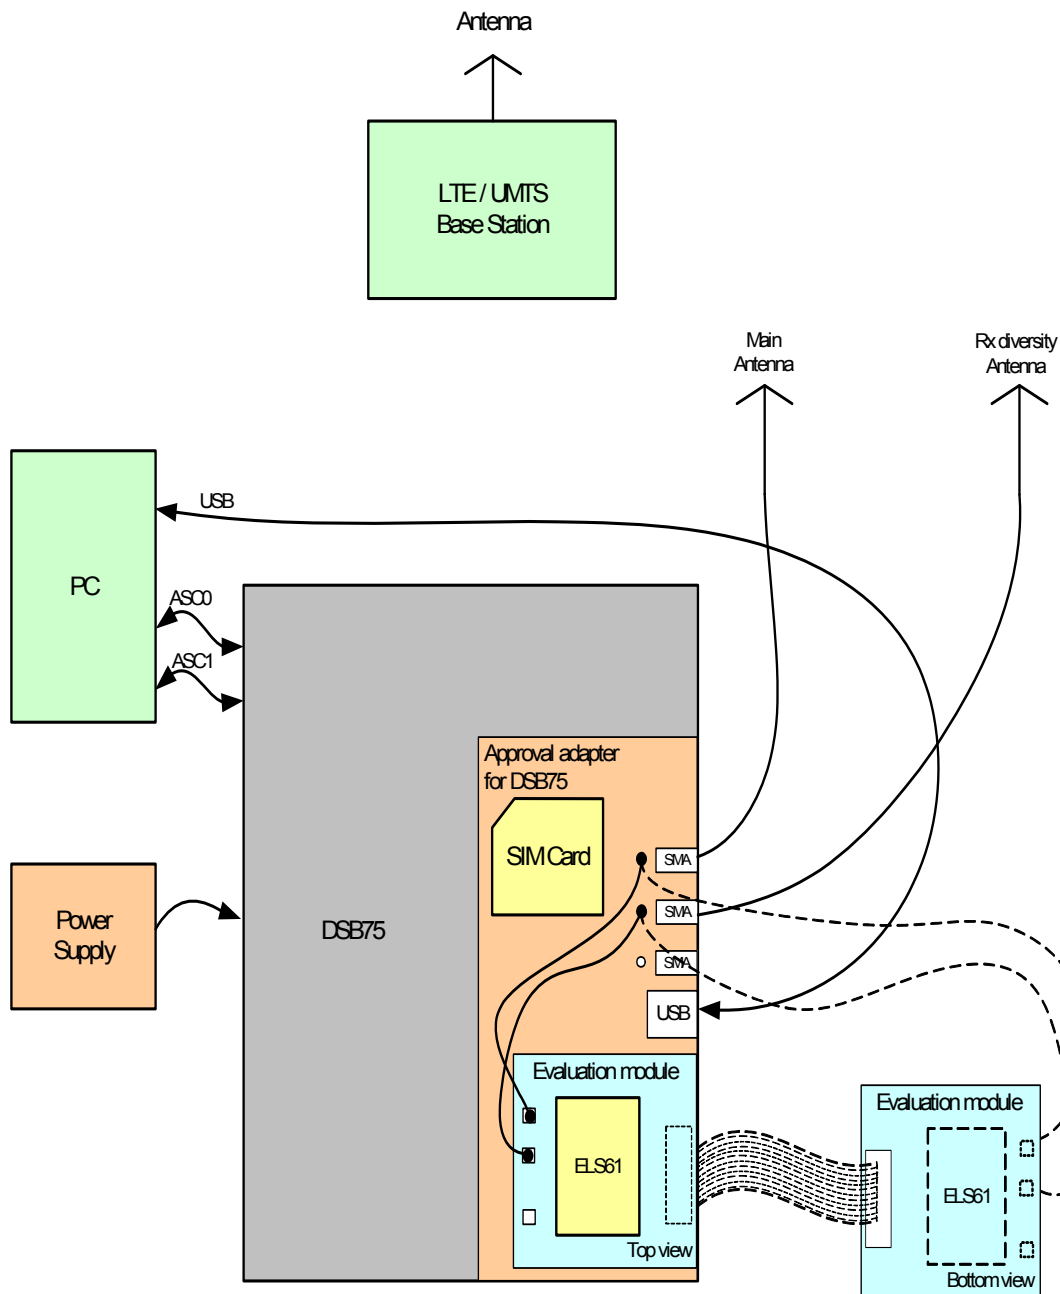

Figure 9: Reference equipment for Type Approval
1. For RF performance tests a mini-SMT/U.FL to SMA adapter with attached 6dB coaxial attenuator is chosen to connect the evaluation module directly to the UMTS test equipment instead of employing the SMA antenna connectors on the ELS61-US-DSB75 adapter as shown in Figure 9. The following products are recommended: